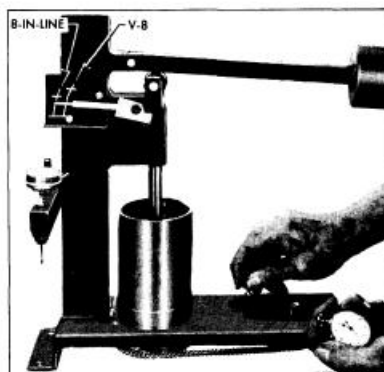

Figure 2-23—Checking Leak-down Rate
4. Lower the ram to rest in the lifter push rod seat, then lower the weight arm to rest on the roller or ram as shown in Figure 2-23.
start rotating the fluid cup by turning the handle one revolution every two seconds. See Figure 2-23.